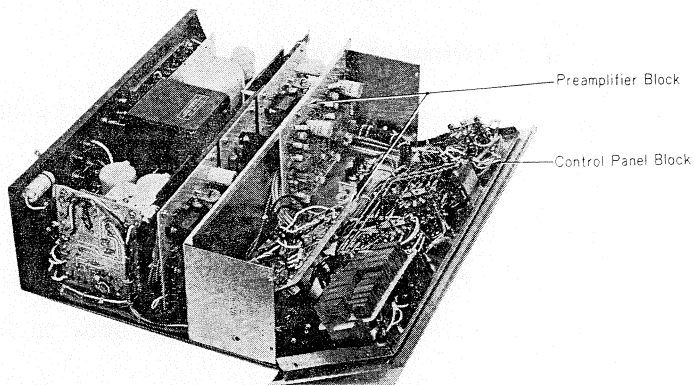

Fig. 5
- (b) The service will be easily done after removing control panel and preamplifier block respectively. (Fig.5)